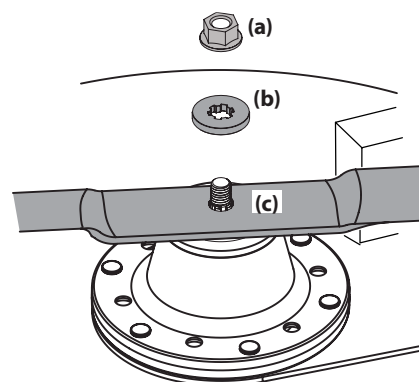

Figure 58
2. Remove the flange lock nut (a) and flat washer (b) from the spindle shaft and remove the blade (c). See Figure 58.